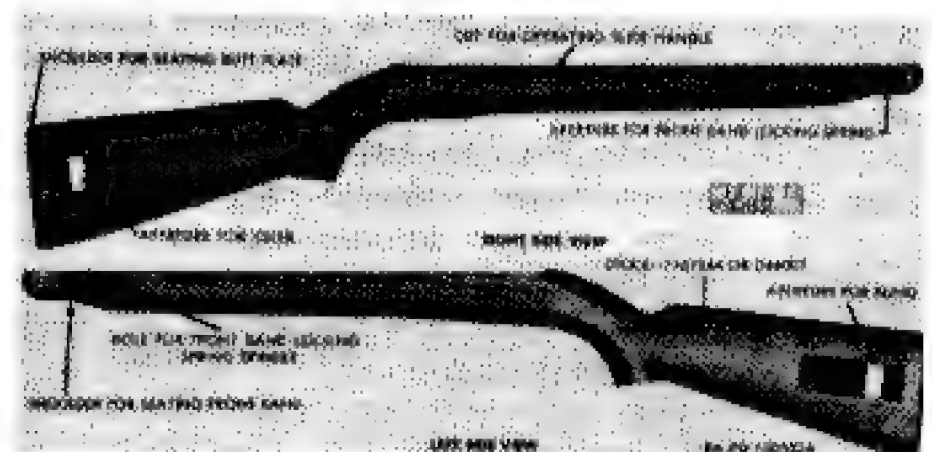

Figure 95. Stock showing apertures — carbine M1.
*a. Stock.* Inspect stock for cracks, scoring, chipping, blemishes, and excessive dryness. Inspect cuts and apertures (Fig. 95) for chipping and burrs, for wear due to interference with moving parts, and for excessive friction in assembling.
- (1) Inspect butt plate for deformation, burrs, fit, and looseness on stock. Check butt plate screw for looseness and check threads in stock for stripping. The butt plate screw must fit firmly in stock.
- (2) Protrusion of butt plate beyond edge of stock is acceptable in rebuilt weapons unless more than approximately one-half of the thickness of the metal extends beyond the edge of the stock.
(c) Point on right side of stock and hand guard where operating slide bar passes through to right side of receiver (Fig. 95).